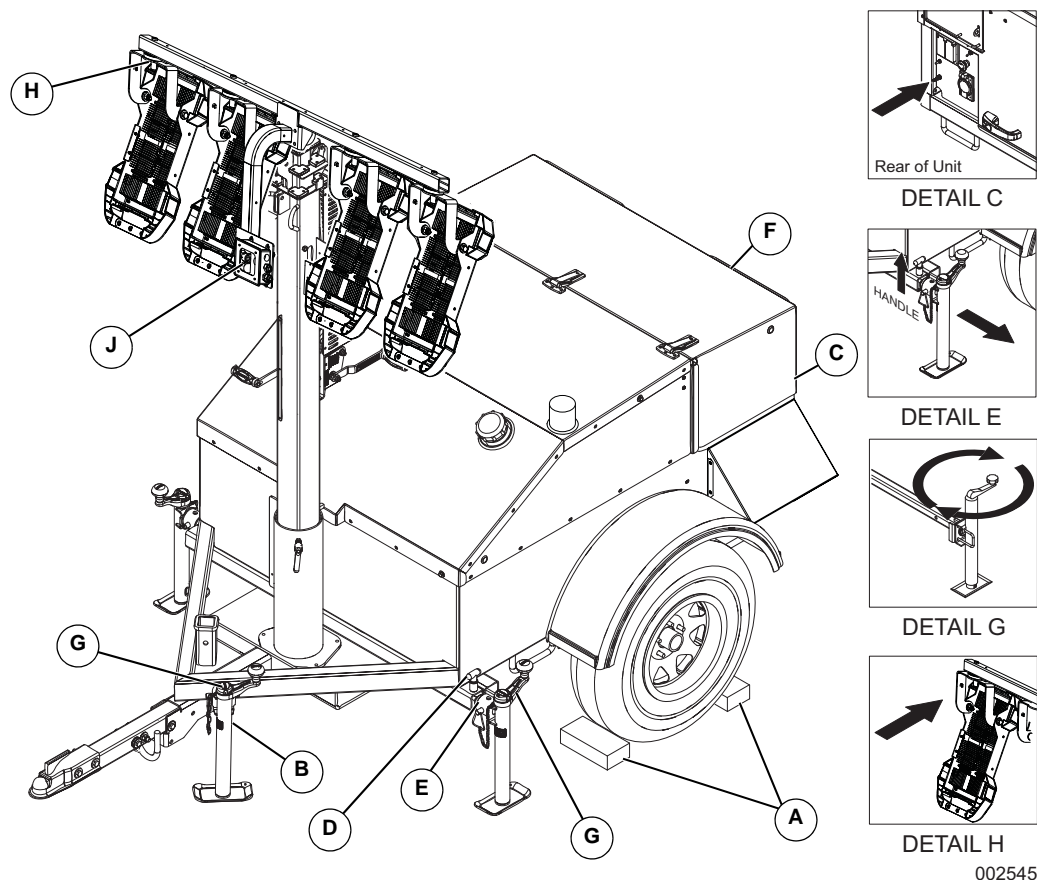

Figure 3-1. Set Up Outriggers and Jacks
2. See **Figure 3-1**. Place the unit on firm ground that is relatively flat, and then block the wheels (A) to keep it from moving. This will make it easier to level the unit.
3. Pull the locking pin (B) on the tongue jack and rotate the jack 90°. Reinstall the locking pin. Turn the jack handle clockwise to raise the trailer tongue off of the towing vehicle.
4. A grounding stud (C) is located on the control box. For grounding requirements, follow any local, state, or National Electrical Code (NEC) guidelines.
5. See Detail E. Pull the locking pin (D) on the outrigger (E) and pull each outrigger out until the spring loaded locking pin snaps back into place. Pull the locking pin on the outrigger jack and rotate each jack 90° so the jack pad is facing down. Reinstall the locking pin.
6. Pull the locking pin on the rear jack (F) and rotate the jack 90°. Reinstall the locking pin. Rotate the jack handle clockwise to start leveling the trailer (see Detail G). Adjust all four jacks by rotating their handles (G) clockwise until they are firmly in contact with the ground and the trailer is as level as possible.